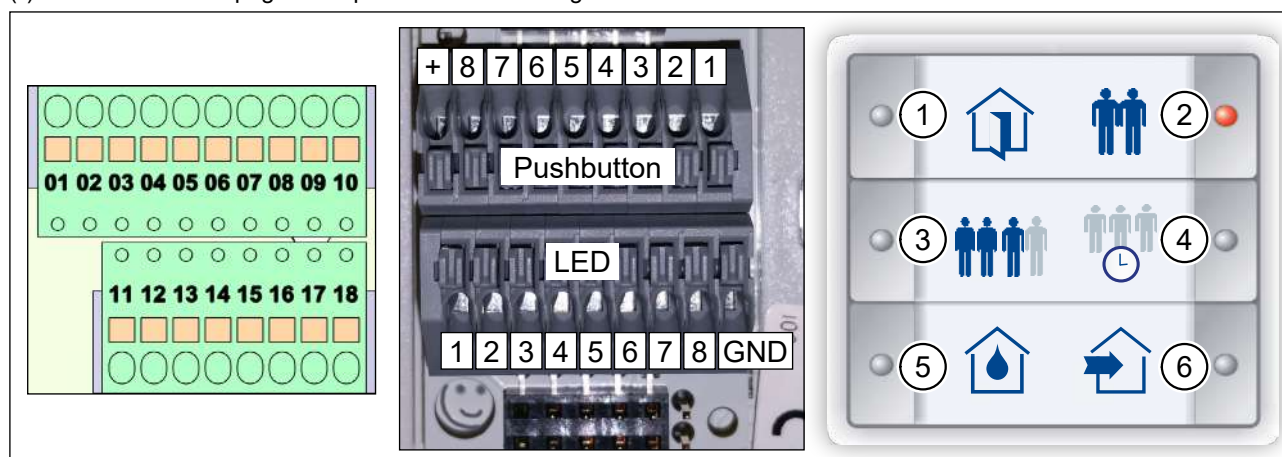

Fig. 31: Terminal blocks on ventilation unit, terminal blocks on InControl pushbutton sensor, insert sheet
- After wiring, place the insert sheet (Fig. 31) in the InControl pushbutton sensor.